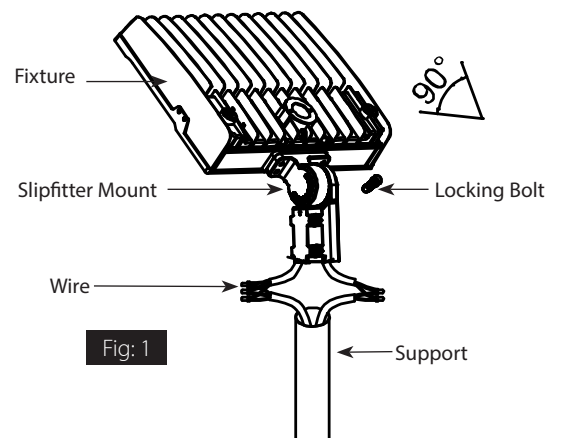

Fig: 1
1. Place the **Slipfitter** over the **Tenon** and secure the **Fixture** with the **Screws** on the side of the **Slipfitter** as shown in **Fig. 1**.